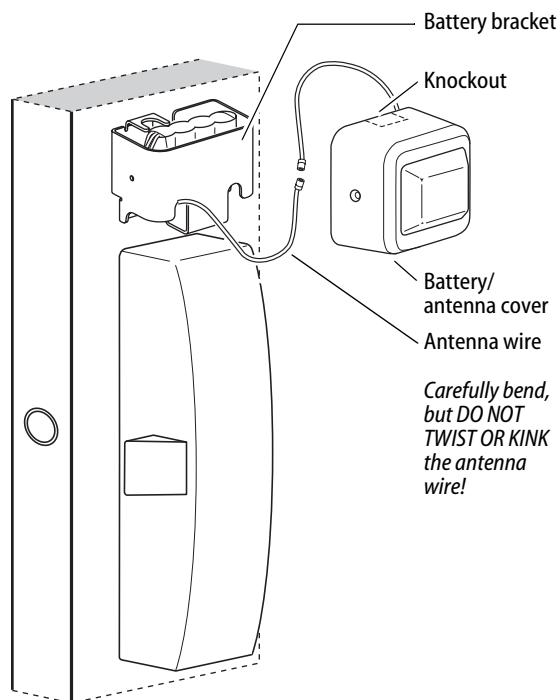

Figure 30 Installing the battery cover over the battery bracket and connecting the antenna
- 1 **If installing with a surface vertical rod exit device,** carefully use a razor blade to remove the knockouts for the rod from the battery cover. See Figure 30.